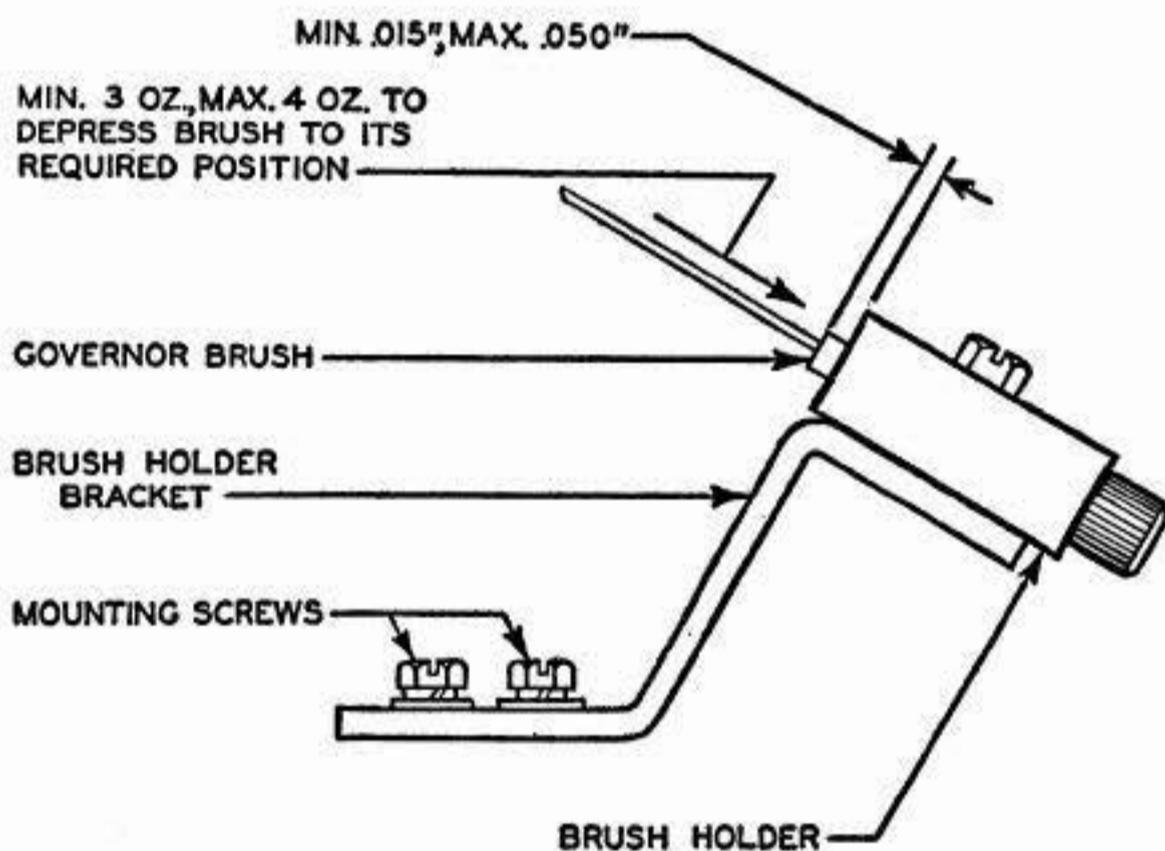

Fig. 13
4.18 **Governor-Brush Spring-Tension:** It should require min 3 oz, max 4 oz to hold the brush in its normal position (within min .015", max .050" of the brush holder). **Fig. 13**